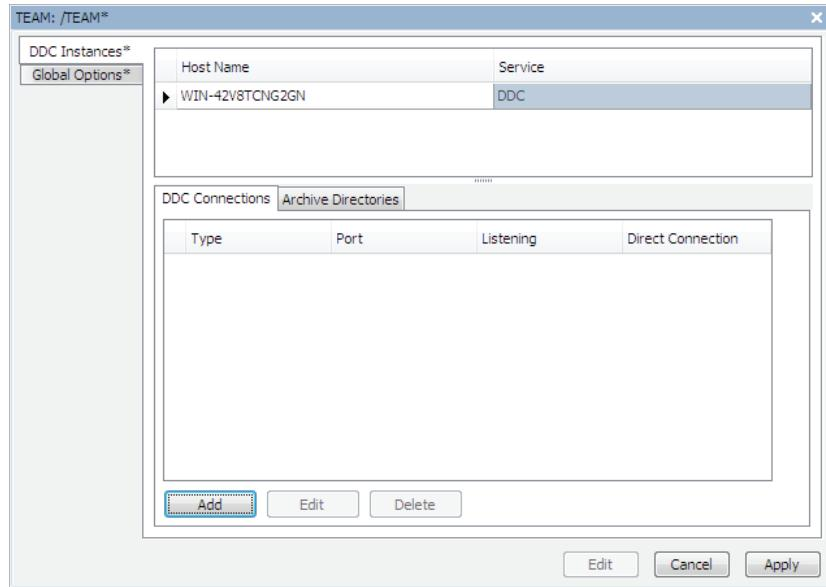

Figure 10 Add DDC Connection
Step 5. Navigate to the **DDC Connections** subtab and select **Add**, as shown in *Figure 10*. This starts the **Device Data Collection Wizard**.